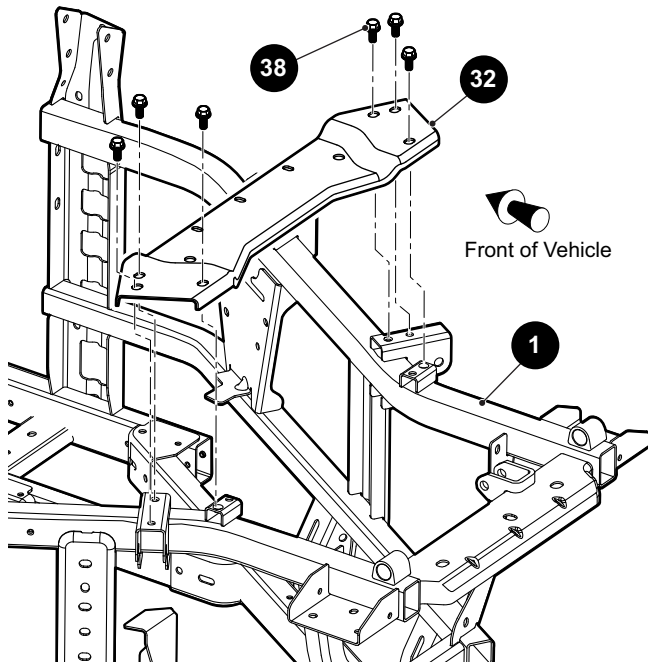

Fig. 4 Rear Shock Tower Brace
1. Remove the bolts (8) that secure the front shock tower brace (7) to the frame (1) (Ref. Fig. 4). Remove the brace.